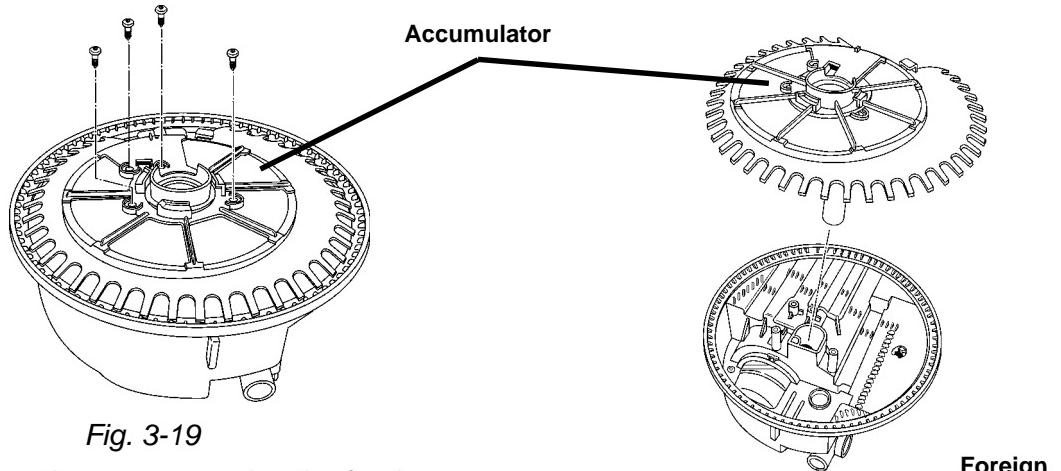

Fig. 3-19
1. Remove the four (4) screws securing the soil accumulator from the sump base. (Fig. 3-19)